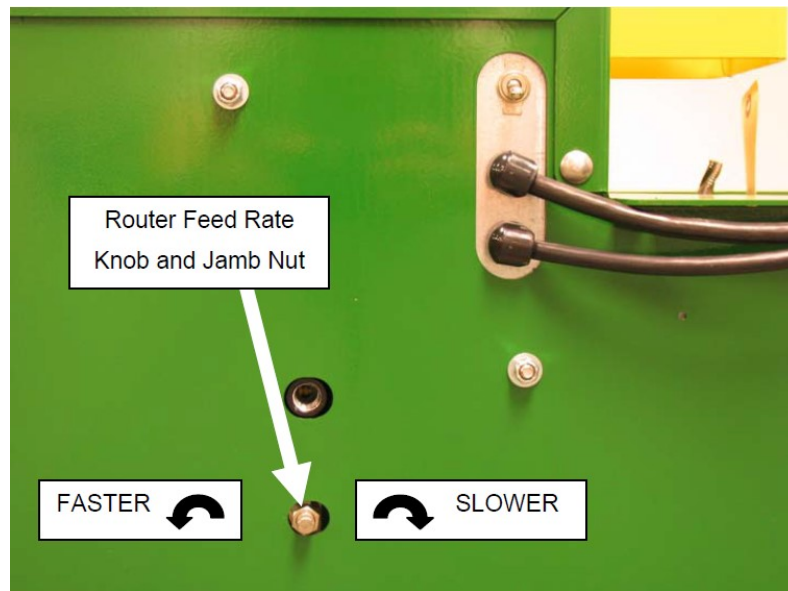

Fig 13
1. Locate the Feed Rate knob on the left side of the case and fully loosen the Jamb Nut. See Fig 13.